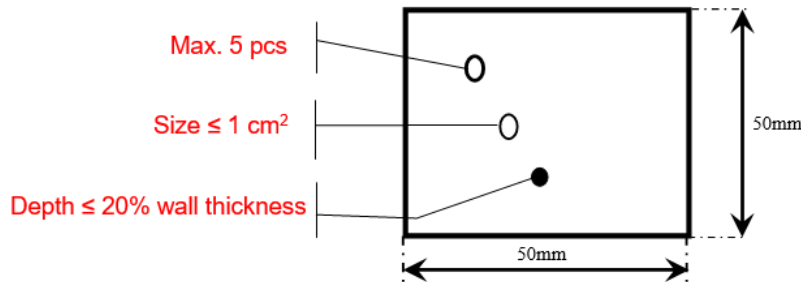

fig. 3.1.1
3.1.1 The maximum acceptable number of single defects as described below (fig. 3.1.1) must not exceed 5 per 25 cm2